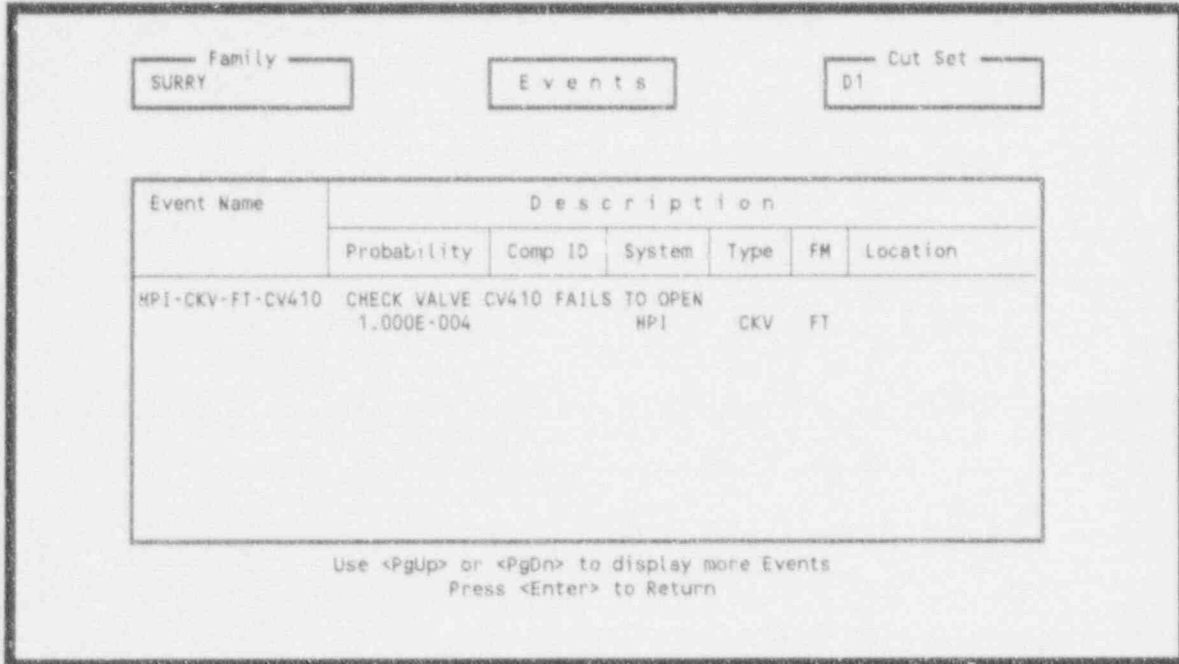

Figure 82. Details of a cut sets basic events.
6.3.2.4 Basic Events. The Basic Event option provides the following detailed information about the events that make up a cut set: name, description, probability, component ID, system, component type, failure mode, and location (Figure 82). To invoke this option, type in the option field, highlight a cut set, and press <Enter>.